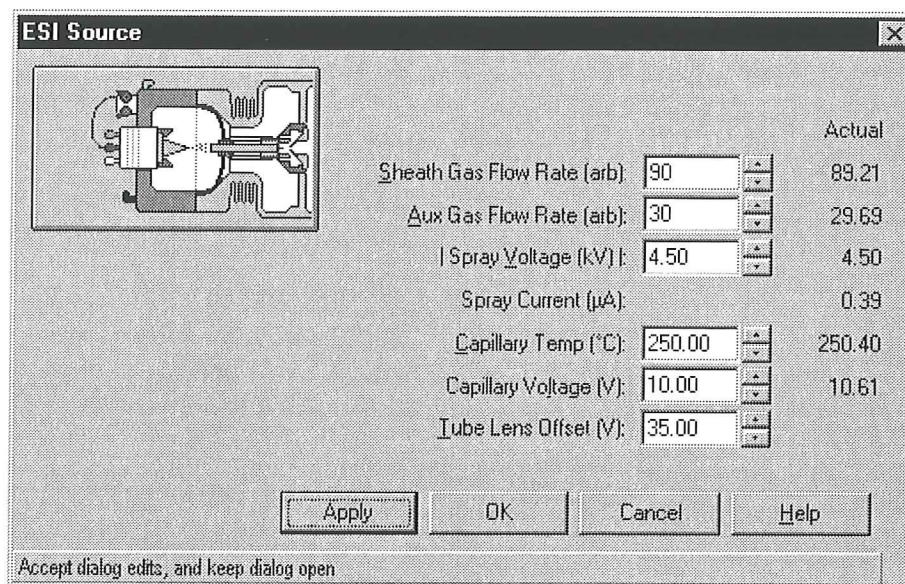

Figure 3-4. ESI Source dialog box, showing typical settings
Choose **Setup | ESI Source**. See Figure 3-4. (If the command in Setup menu is APCI Source rather than ESI Source, choose **Setup | Change to ESI**. Then, choose **Setup | ESI Source**.)
- b. Confirm that the settings approximate those shown in Figure 3-4.